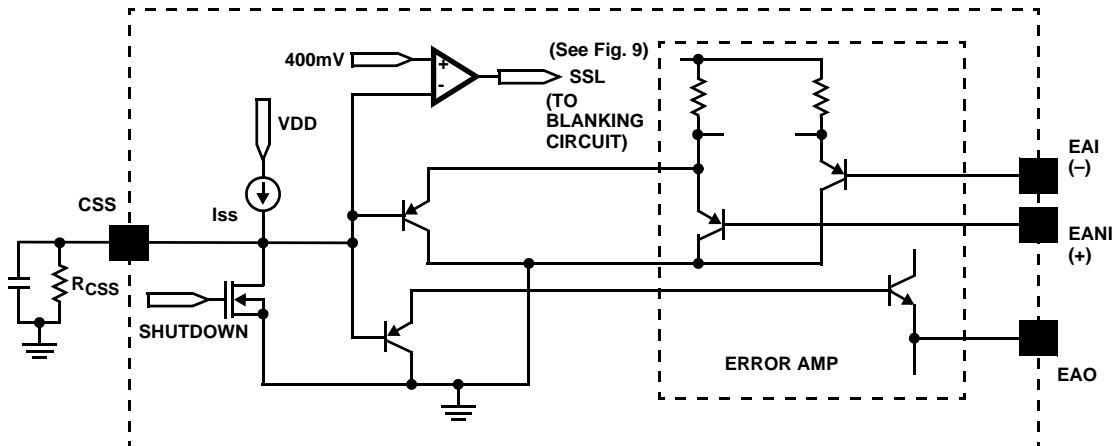

FIGURE 4. SIMPLIFIED CLAMP/SOFTSTART
- Both EANI and EAO are clamped by the voltage (Vclamp) set at the CSS pin, as shown in Figure 4. Note that the diodes in the functional block diagram represent the clamp function of the CSS in a simplified way.
- The clamping voltage determines the cycle-by-cycle peak current limiting of the power supply. It should be set above the EANI and EAO voltages and can be programmed by an external resistor as shown in Figure 4 using Equation 3.
incorporated. The current ramp is blanked out during the resonant delay period because no switching occurs in the lower FETs. The leading edge blanking function will not be activated until the soft start (CSS) reaches over 400mV, as illustrated in Figures 4 and 9. The leading edge blanking (LEB) function can be disabled by tying the R_LEB pin to VDD, i.e., LEB=1. Never leave the pin floating.